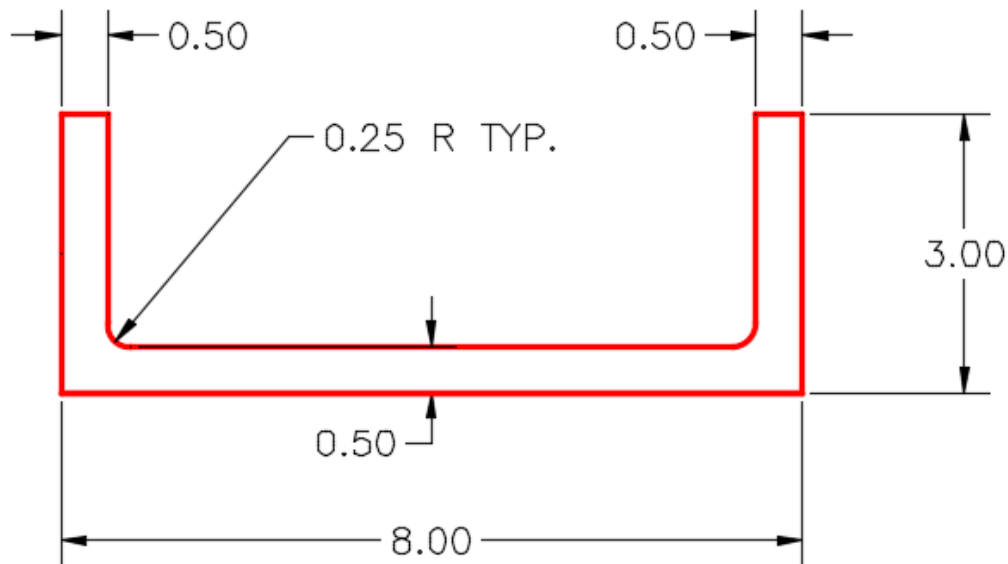

Figure Step 4A
Step 4 Using the figures as a reference, draw the wireframe model. Note the location of the WCS. (Figure Step 4A and 4B)